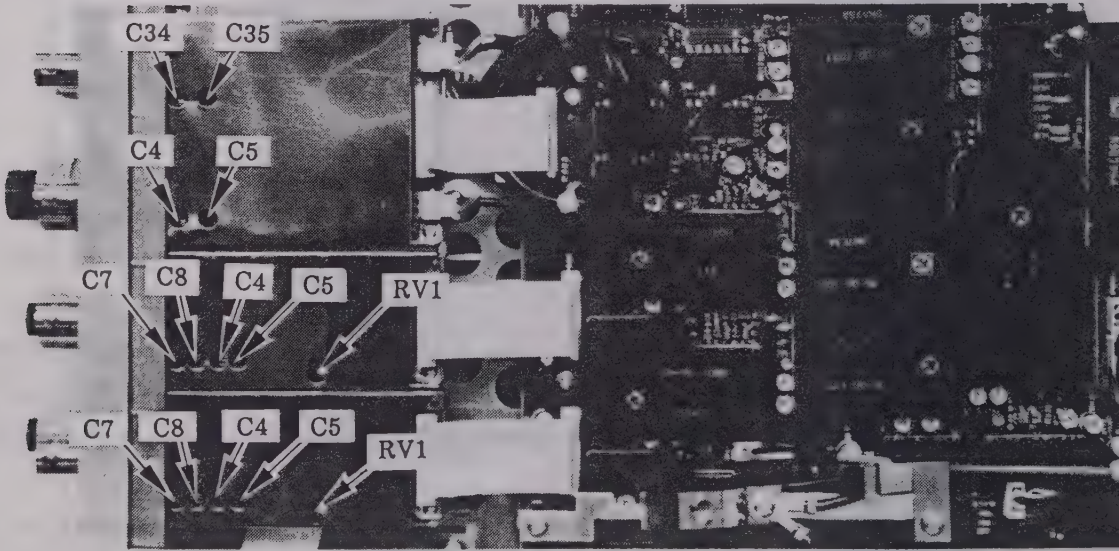

Fig. 4-21 Adjustment position of input attenuator (ATT)
- (1) Perform initial setting in accordance with Table 4-3.
- (2) Connect the fast rise square wave of 10kHz from the vertical axis calibrator to the input terminal of CH1 (terminated in 50 ohms), and set "TIME / DIV" of the oscilloscope to 0.5ms / DIV.
- (3) Set the oscilloscope to each range of CH1 shown in Table 4-9, and confirm that the flatness of the square waves when the amplitude of the waveform on the CRT screen is 6 DIV, is within  $\pm 3\%$ . If it is not, adjust the CH1 phase compensator (C5, C8, and RV1) on board CH1-ATT shown in Fig. 4-21.
- (4) Press the "CH2" "VERT MODE" switch to put the oscilloscope into the dual trace mode, and connect the signal output to CH2.
- (5) Using exactly the same method as described in (3), check the flatness characteristics of the square wave for CH2 as well.
- (6) Connect a capacitance meter to the input terminal of CH1.
- (7) Set the deflection factor of CH1 to 10mV, and confirm that the input capacitance is  $20\text{pF} \pm 3\text{pF}$ . (The input capacitance is based on the 10mV range is 21pF, adjust the input capacitance of the 0.1V and 1V ranges to 21pF. Do likewise for CH2.)
Confirm that the input capacitance of each range of CH1 shown in Table 4-9 is within  $\pm 1\text{pF}$  compared to the input capacitance of the 10mV range. If it is not, adjust the CH1 input capacitance (C4, C7) on board CH1-ATT shown in Fig. 4-21.
- (2) Press the “CH3” and “CH4” “VERT MODE” switches. Turn “CH1” OFF and turn CH3 and CH4 ON (dual trace mode).
- (3) Set the deflection factor of CH3 and CH4 to 0.1V.
- (4) Set “TIME / DIV” of the oscilloscope to 0.5ms / DIV.
- (5) Connect the fast rise square wave of about 10kHz from the vertical axis calibrator to the input terminal of CH3 (terminated in 50ohms), and adjust the signal output to 6 DIV.
- (6) Confirm that the flatness characteristics of the square wave are within  $\pm 3\%$ . The flatness characteristics of the 0.1V range constitute the reference for the CH3 amplifier. If the flatness is not within  $\pm 3\%$ , replace the CH3 / CH4 - ATT unit.
- (7) Set the deflection factor of CH3 to 0.5V.
- (8) Adjust the amplitude of the waveform on the CRT screen to 6 DIV.
- (9) Confirm that the flatness characteristics of the square wave on the CRT screen are within  $\pm 3\%$ . If they are not, adjust the CH3 phase compensator (C5) on the CH3 / CH4 - ATT board shown in Fig. 4-21.
- (10) Connect the fast rise square wave signal to CH4.
- (11) Using exactly the same method as described in (5) to (9), check and adjust the square wave characteristics of CH4 as well.
- (12) Connect a capacitance meter to the input terminals of CH3.
- (13) Set the deflection factor of CH3 to 0.1V, and confirm that the input capacitance is  $20\text{pF} \pm 3\text{pF}$ . (The input capacitance of the 0.1V range constitutes a reference. For example, if the input capacitance of the 0.1V range is 21pF, adjust the input Capacitance of the 0.5V range to 21pF. Do likewise for CH4.)
- Confirm that the input capacitance of each range of CH3 shown in Table 4-9 is within  $\pm 1\text{pF}$  compared to the input capacitance of the 0.1V range. If it is not, adjust the CH3 input capacitance (C4) on board CH3 / CH4 - ATT shown in Fig. 4-21.
- (14) Connect the input of the capacitance meter to CH4.
- (15) Using exactly the same method as described in (13), check and adjust the input capacitance of CH4 as well.